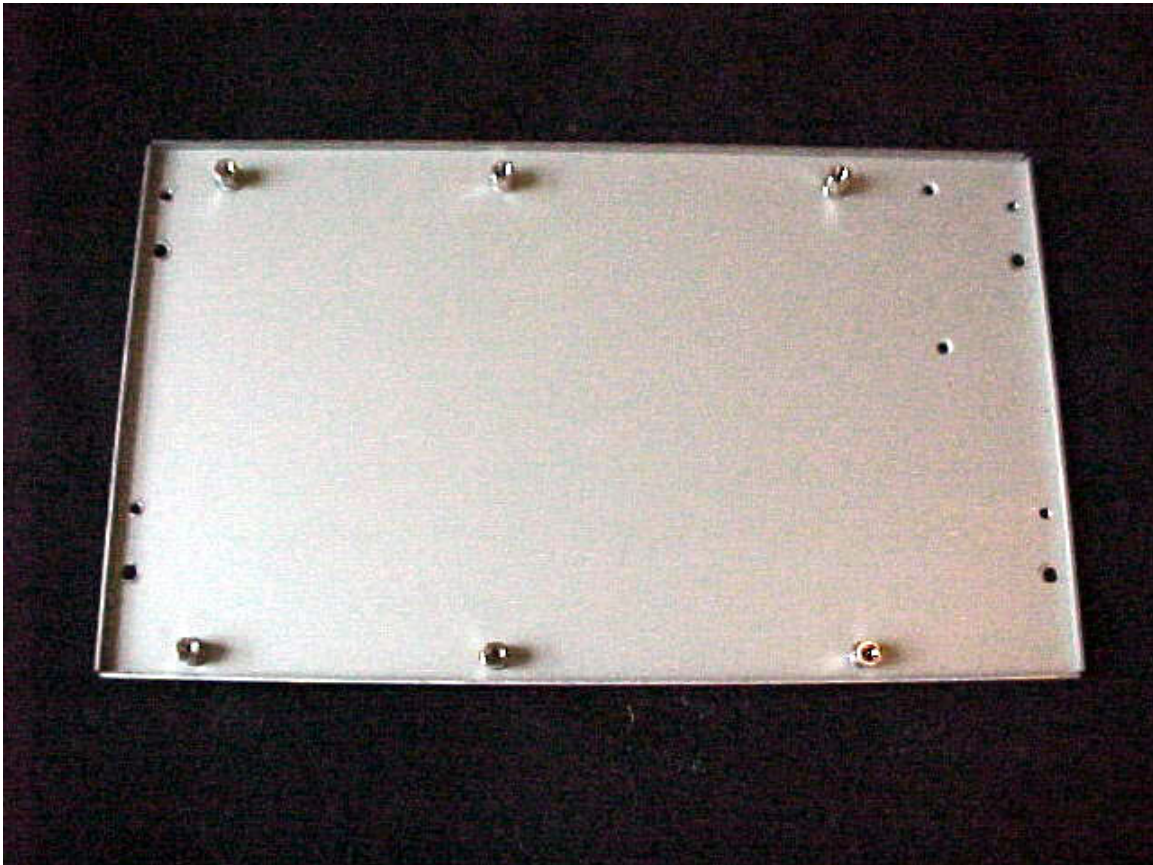

Figure 1
6. Remove the 4 screws that hold the microprocessor base plate (Figure 1) on top of the phased locked loop (PLL) assembly. Remove the plate and mount the 6 (provided) standoffs in the holes where the microprocessor board's mounting hardware was previously. Because the original mountings used metric hardware, you will need either to tap these holes with a 4-40 tap, but you can drill them out and use the provided nuts if you wish. The ground for the microprocessor board is made through this hardware, so be sure that the standoffs are tight. Also, make sure you use the lock washers.